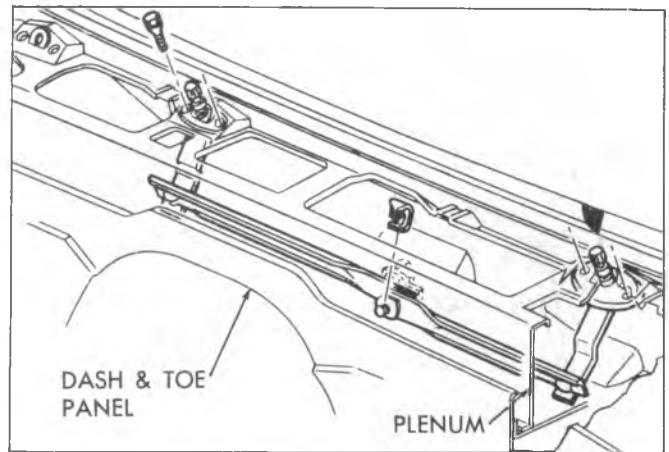

Fig. 17—Windshield Wiper Linkage
several positions due to serrations on pivot shaft and in arm cap (fig. 17).
Wiper Arm Pivot Shafts and Link Rod (Fig. 17)
3. At center of cowl, remove retainer (fig. 17) which attaches each link rod to motor drive linkage and arm assembly. Disengage link rods from pins.